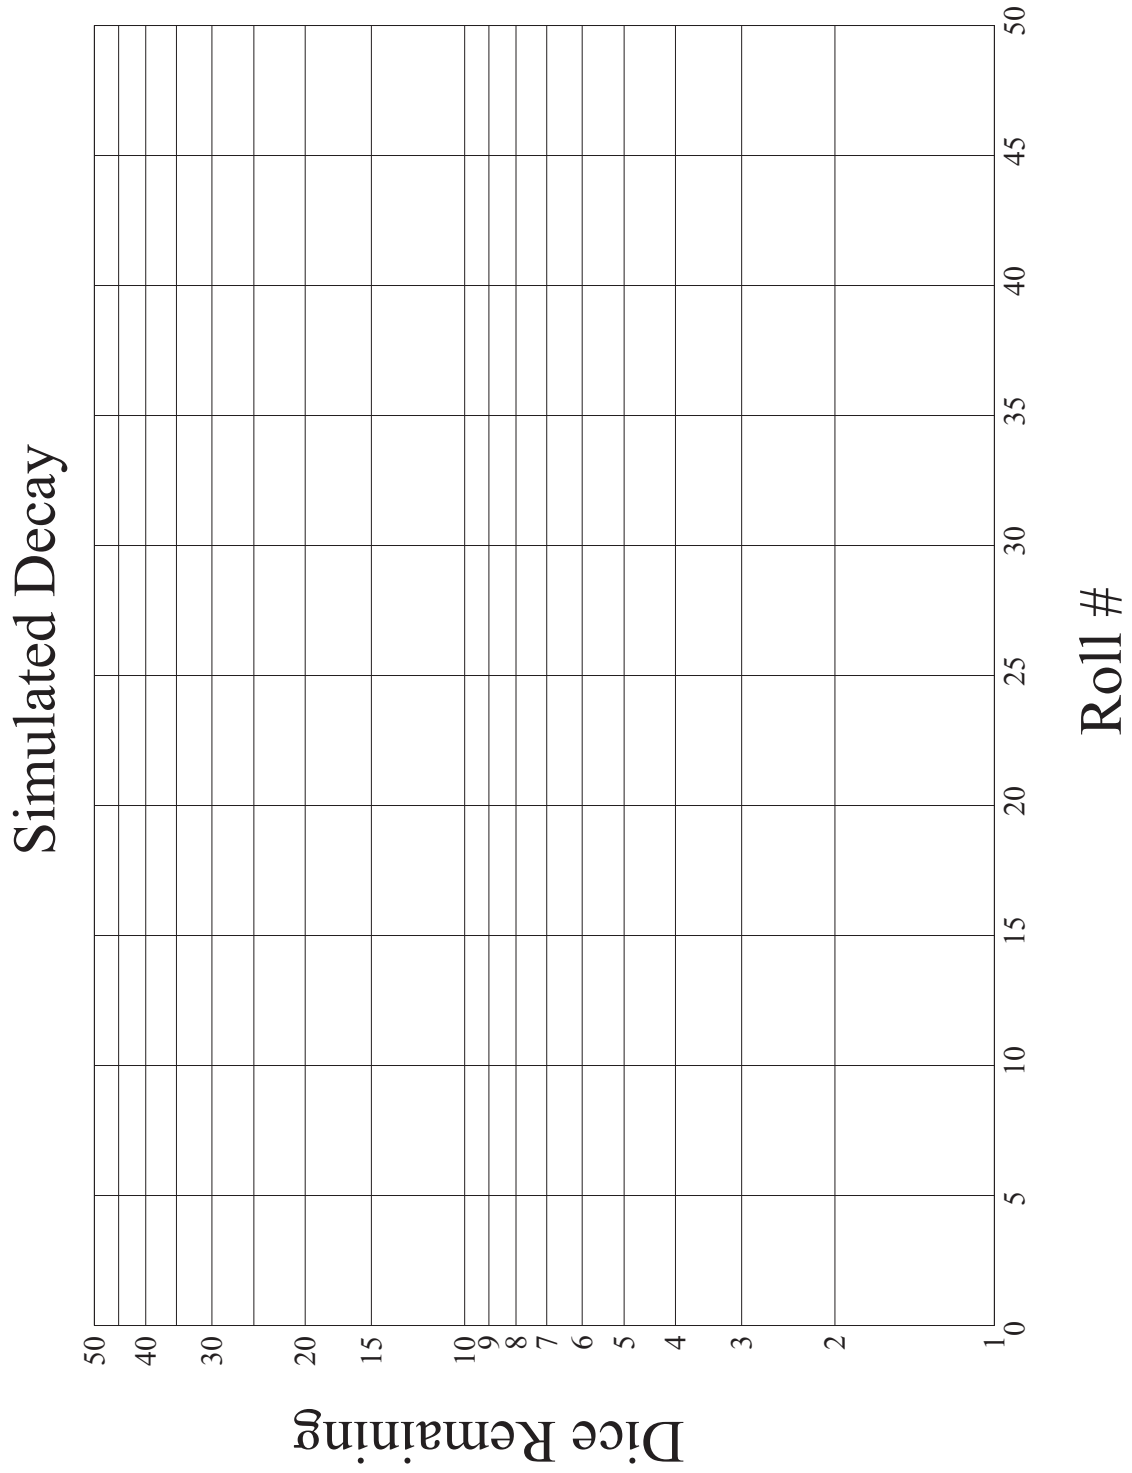

Figure 11.1: Sample semi-log paper for a simulated decay using dice.
2. In your notes, construct a graph of D vs. R plotting the remaining dice D for every 5th roll R . Semi-log graph paper like the sample shown in Figure 11.1 will be provided.